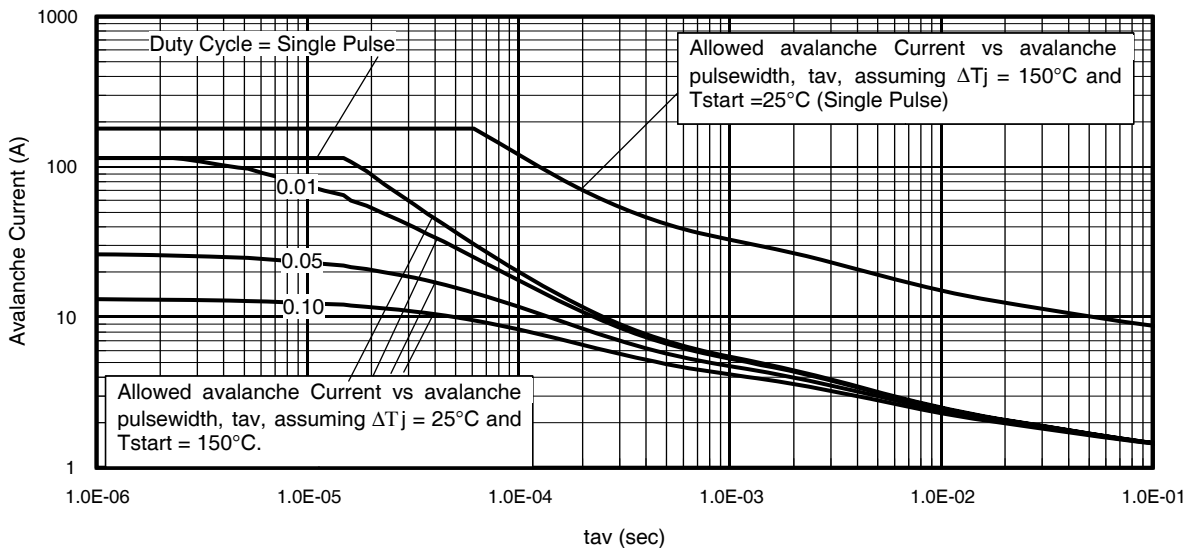

Fig 14. Typical Avalanche Current vs. Pulsewidth
Notes on Repetitive Avalanche Curves, Figures 14, 15:
7.  $\Delta T$  = Allowable rise in junction temperature, not to exceed  $T_{jmax}$  (assumed as 25°C in Figure 14, 15).